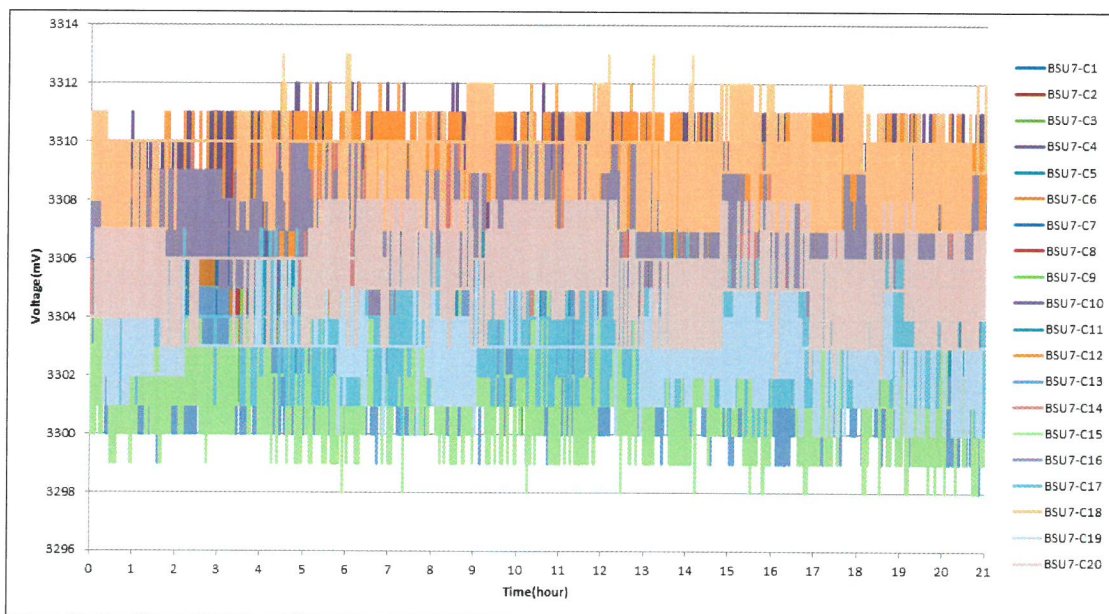

Fig.6 Show the cell voltage during Y₁ axis vibration test
- Fig.6 Show the cell voltage of Y_1 axis vibration test.